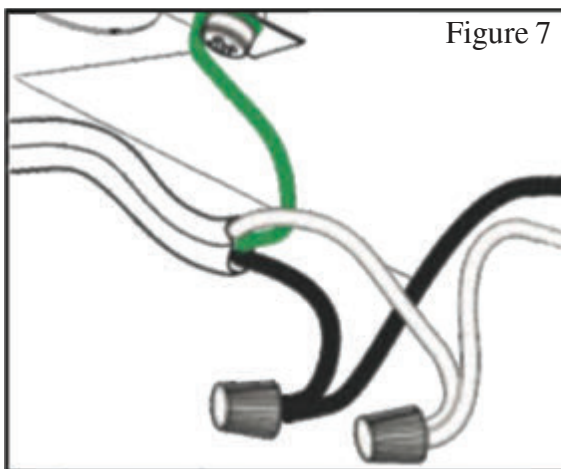

Figure 7
4. Connect the range hood to a designated standard outlet (120-Volt, 60Hz, AC only) or cut off the plug and connect three wires (black, white and green) to house wires and cap with wire connectors. Connect according to colors (i.e. black to black, white to white, and green to green) as shown in Figure 7.